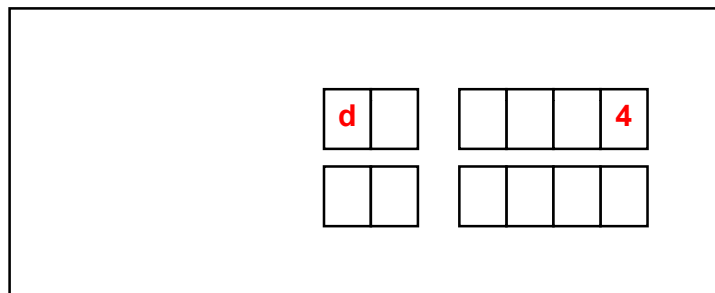

Figure 6.1
- Press [NSE] – panel displays as per Figure 6.1.